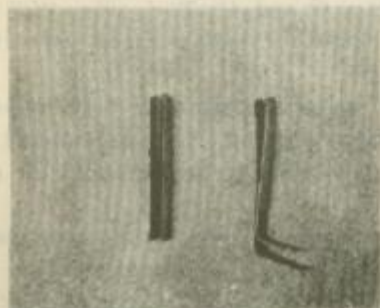
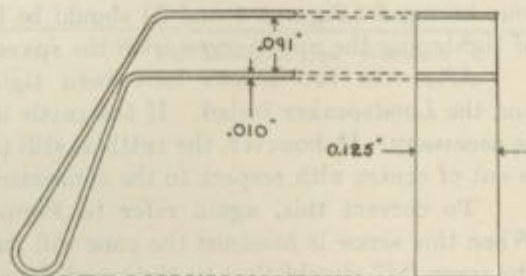

Fig. 3—Spacer tools
Fig. 3a—Spacer tool dimensions
If either end of the armature strikes the pole piece a very disagreeable rattle will result. To correct a misalignment of the armature a pair of spacer tools, shown in Figure 3, and a screwdriver will be necessary. These spacer tools should be made of .010 phosphor bronze stock about  $\frac{1}{8}$  inch wide. The distance between the open ends of the tool should be .091 inches. See Figure 3a.
5. Insert the spacer tools (Figure 3) in position at the top and bottom of the armature and tighten down the armature screws as described for adjusting the armature in Part I of these instructions.